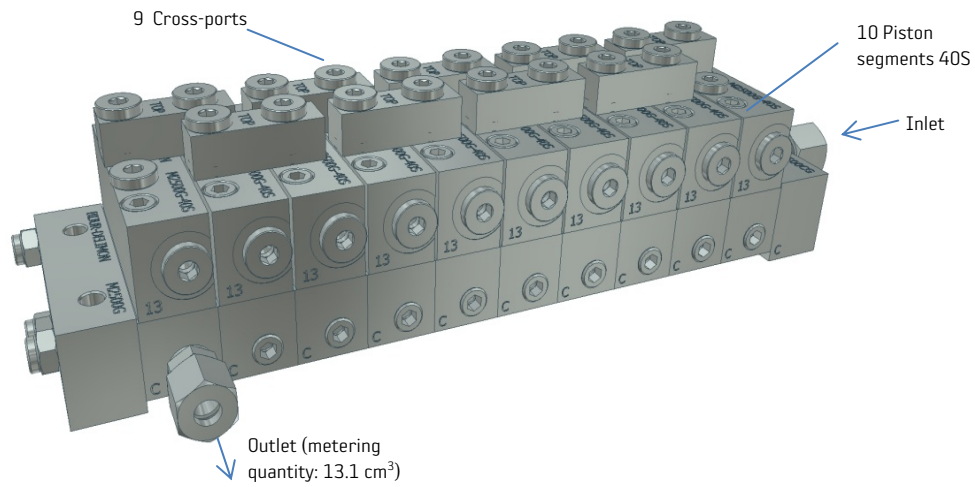

Fig 7
In this connection see also Fig. 7. This shows the arrangement on alternate sides.
- 3.) Selection of piston segments rated for the maximum metering quantity (1.31 cm3 per lubricating cycle). The distributor could then appear as follows (see Fig. 7):